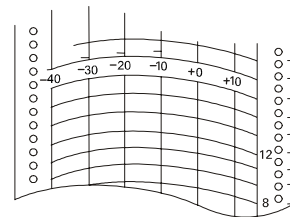

Fig. 1
This unit is provided a nickel-metal-hydride battery for the power failure alarm. The battery is located in the control box at the back of the product. (Fig. 1)
1. The information on the recording paper is shown in Fig. 1.
1. Slightly raise the end of the pen lifter and remove from the lifter stopper. Then rotate clockwise as shown in Fig. 1.